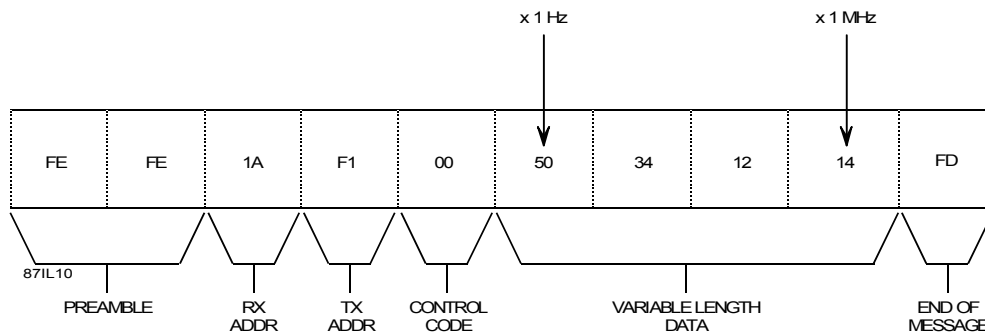

Figure 5-5. Tuned Frequency Command Format without Acknowledge
*Figure 5-5* shows an example of the typical format for setting the receiver's tuned frequency using control code [00]. This control code provides the same result as the [05] code described in *paragraph 5.8.2* except it does not require an acknowledgment. For this reason it is not the preferred method to tune a WJ-8711A.